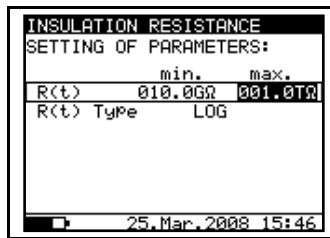

Fig. 15. Set-up menu of the Graph R(t)
- Press the **SELECT** key to Set-up the parameters of the **graph R(t)**, see the **Fig. 15**. Press the **ESC** key to return to basic Set-up menu in the **Insulation Resistance** function.